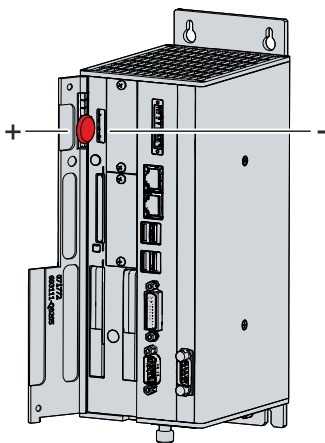

Fig. 25: Battery change
2. Insert the new battery into the PC by hand. Pay attention to the correct polarity. The negative pole of the battery must point towards the voltage socket of the industrial PC (see Fig. 25).